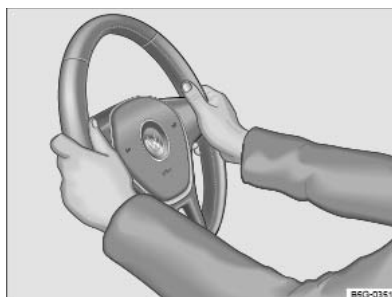

Fig. 78 On the steering wheel: 9 o'clock and 3 o'clock position.
- Adjust the steering wheel so that you can hold it with both hands at its circumference at the 9 o'clock and 3 o'clock positions with your arms slightly bent ⇒ Fig. 78.
- While driving, always keep both hands on the outside of the steering wheel at the 9 o'clock and 3 o'clock positions \Rightarrow Fig. 78. This reduces the risk of injury if the driver front airbag is triggered.